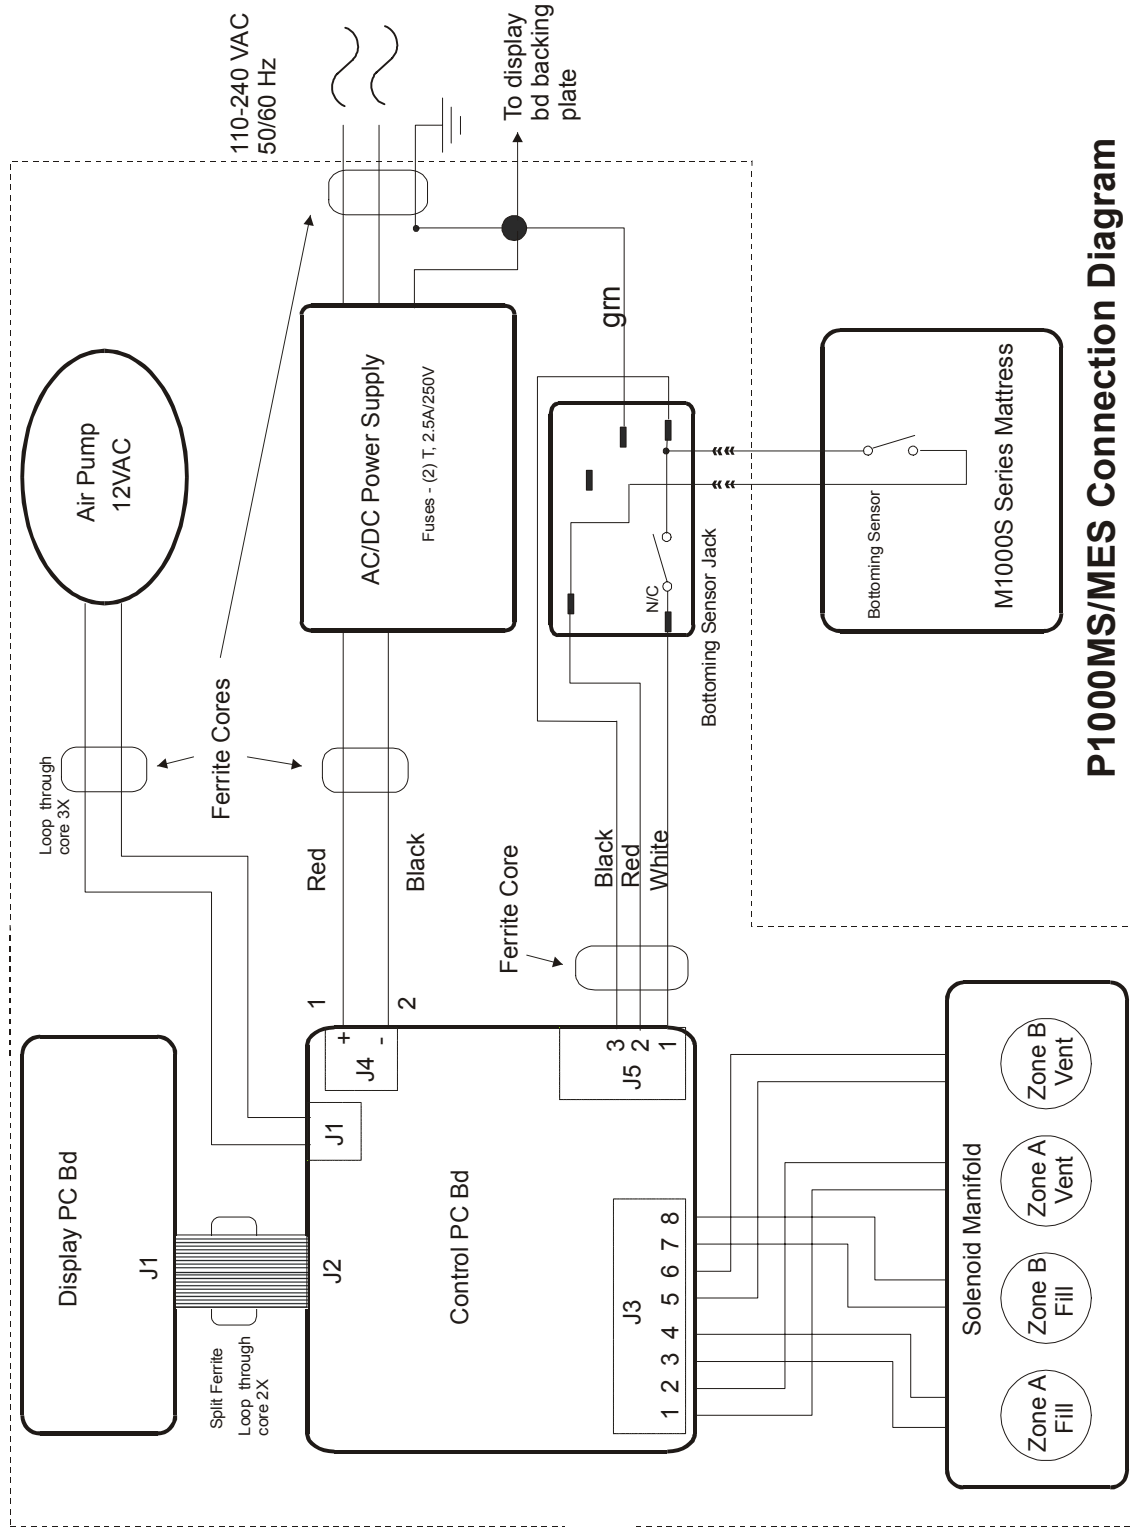

Figure 8
4. Attach wires to J1 on main control bd per wiring diagram, figure 8
4. Re-connect individual wires to terminal blocks following connection diagram, figure 8